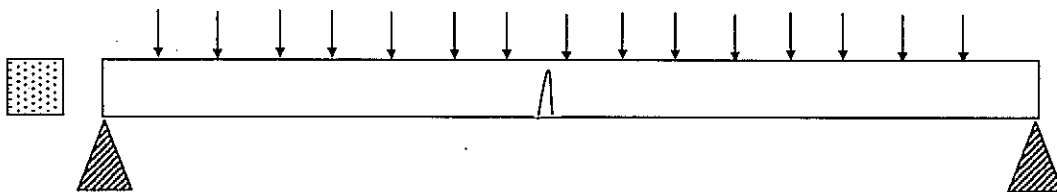

Figure Q5a
- (a) Concrete is an artificial composite. Figure Q5a shows a plain concrete beam, which has failed due to the formation of cracks.